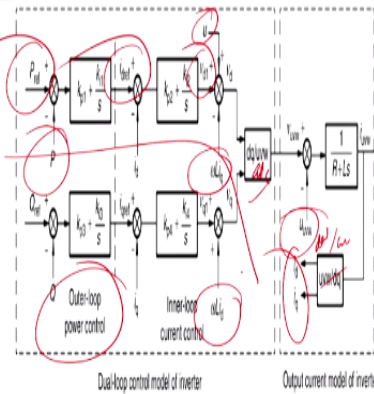

Fig.1 Schematic diagram of P/Q control
- Fig.1 shows the schematic diagram of P/Q control.